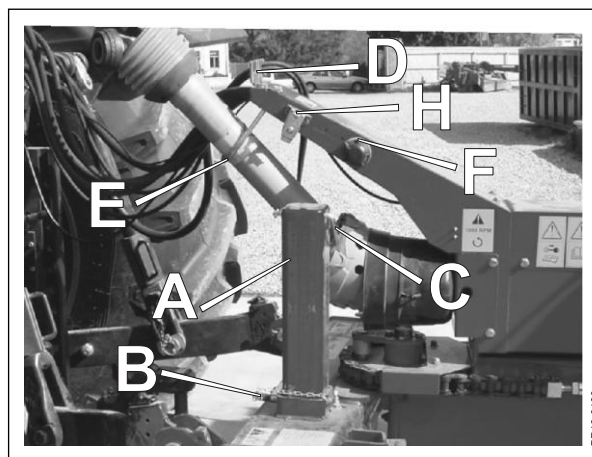

Fig. 3-6
**Fig. 3-6** The machine can be parked in 2 positions. In working position with the cutting units lowered or in transport position. If you park in working position, you must be aware that the weight on the parking stand is bigger and it may sink into the ground if it is soft.